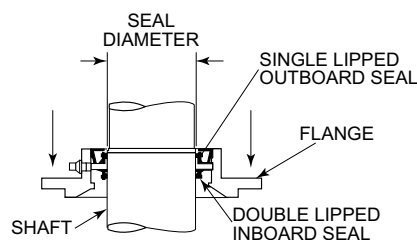

Figure 6.2.5 Placement of Seal Carrier Assembly onto Shaft
- When the seal carrier is piloted on the shaft pilot, seat the seal carrier by slowly pressing down on the flange; reference Figure 6.2.5.